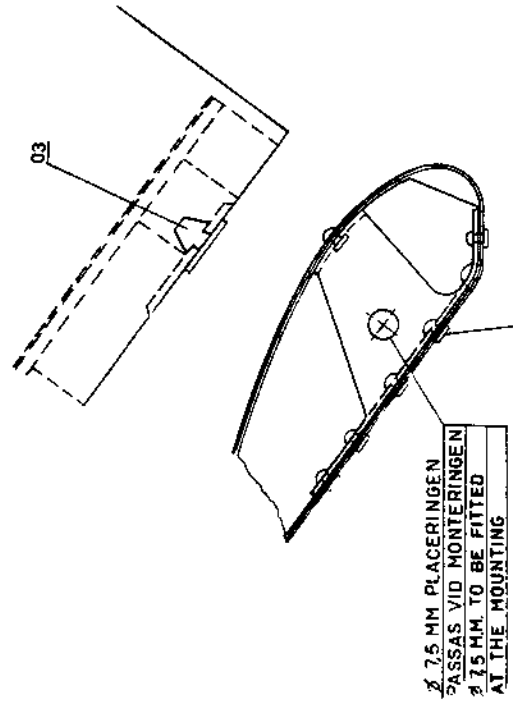

FIG 1
Make and fit the reinforcement sheets item 01 and 02 according figure 1. Notice that the right hand sheet is smaller than the left hand one. Rivet the reinforcement sheets. Drill holes for and introduce the protecting buttons.